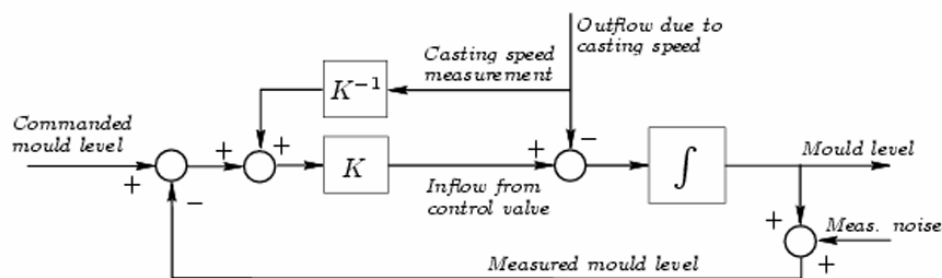

Figure 1 Continuous casting control system (controller + plant model)
The continuous casting control system (controller + plant model) is shown in Fig. 1 below. This system is described more fully in the lecture notes and in Chapter 2 of the Goodwin et al. textbook—you should read these before attending the lab class. Additionally, an interactive Java demo of this system is available via the textbook web site or the CD that comes with the textbook—it would also be helpful to play around with this demo before attending the lab class.
1. Creating a Simulink model from Figure 1
- d. You will need the following blocks to simulate the system shown in Fig. 1:
- ii. “Gain” blocks for the *feedforward* (K^{-1}) and *feedback* (K) gains can be found in the “Math Operations” section of the library, as can “Sum” blocks for the various *summations* and *subtractions* performed on different signals.